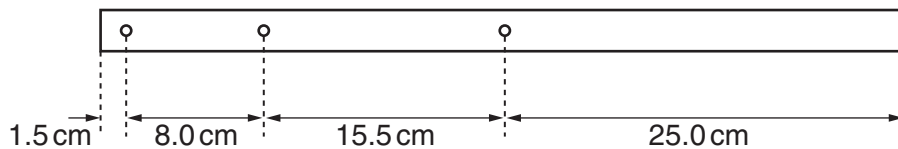

Fig. 1.1
- 1 Drill three holes centrally through the wooden strip at the positions shown in Fig. 1.1.